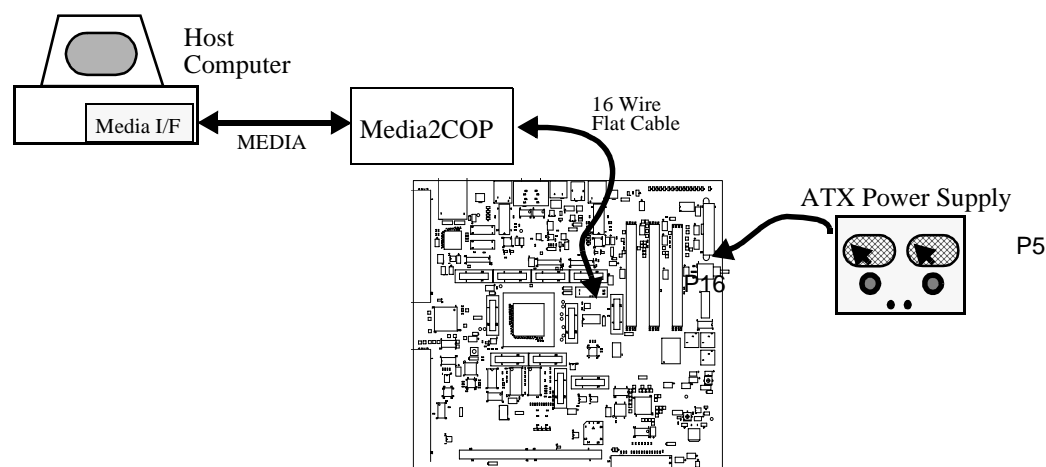

Figure 3-1. Host-Controlled Operation Scheme—Command Converter
- The host is connected to the board by a COP controller (command converter) provided by a third party (see Figure 3-1).